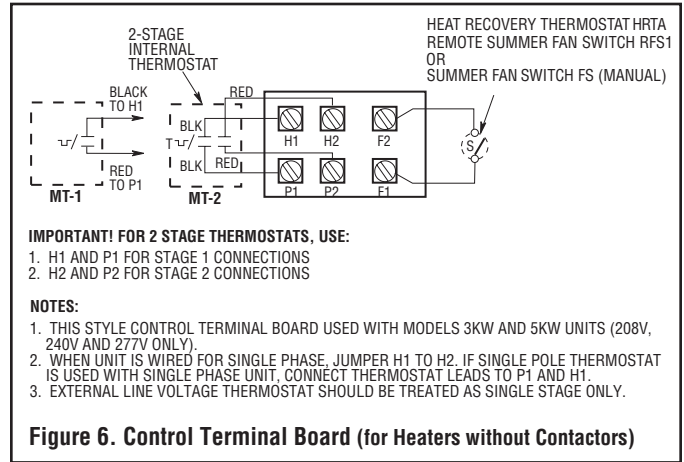
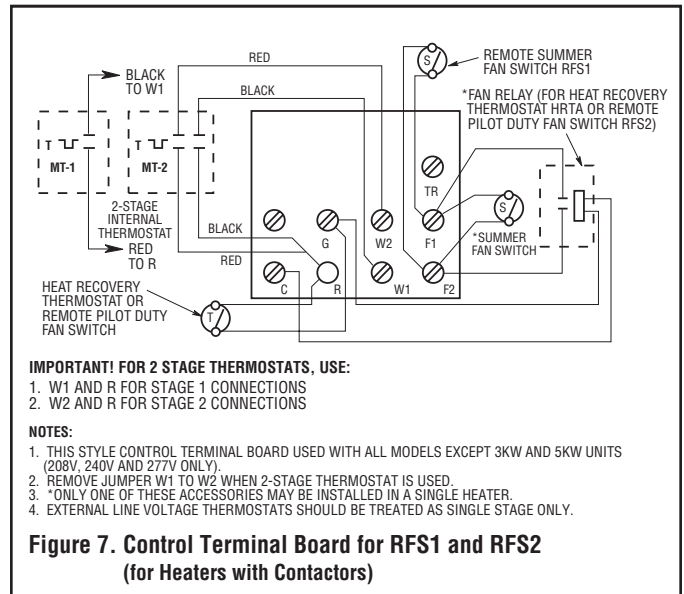

Figure 6. Control Terminal Board (for Heaters without Contactors)
Figure 7. Control Terminal Board for RFS1 and RFS2 (for Heaters with Contactors)
5. Refer to wiring diagram, Figure 6, for wiring procedure on 3KW and 5KW (208V, 240V and 277V only). Refer to wiring diagram, Figure 7, for wiring procedure on all other heaters.
3. Install leads to terminal block. Refer to wiring diagram, Figure 6, for wiring procedure on 3KW and 5KW units (208V, 240V, and 277V only). Refer to wiring diagram, Figure 7, for wiring procedure on all other heaters.
4. A 1/2-inch (12.7mm) knockout is provided in the back of the heater adjacent to the control terminal board. Use a crimp-on terminal suitable for No. 8 screw on the control terminal board. Connect one field wire terminated lead to terminal F1 and the other terminated lead to terminal F2. Refer to Figure 6 for connecting to heaters without built-in contactors. Refer to Figure 7 for connecting to heaters equipped with built-in contactors.
4. A 1/2-inch (12.7mm) knockout is provided in the back of the heater adjacent to the control terminal board. Use a crimp-on terminal suitable for No. 8 screw on the control terminal board. Connect one field wire terminated lead to terminal "R" and the other terminated field wire lead to terminal "G". Refer to Figure 7.
2. Connect the lead wires from the relay to the control terminal board as shown in Figure 7. Each lead wire is marked for proper terminal location; connect the lead wires as indicated.
(For heaters with 24 Volt Control Circuit refer to Fig. 7 and proceed to step 1. For heaters with Line Voltage Control refer to Fig. 6 and proceed to step 3.)
2. Connect the lead wires from the relay to the control terminal board as shown in Figure 7. Each lead wire is marked for proper terminal location; connect lead wires as indicated.
8. Refer to wiring diagram, Figure 6 or Figure 7 for wiring procedure.